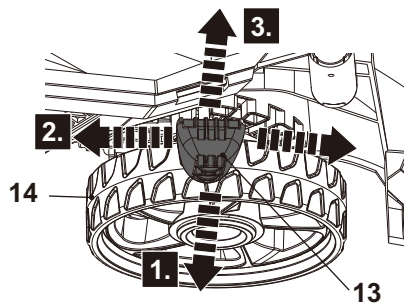

Fig. 13
1. Pull the lever (13) towards the rear wheel (14) (Fig. 13, step 1).
2. Move forward or backward to adjust the cutting height (Fig. 13, step 2).
3. Release the lever (13) and ensure it engaged in the slot properly (Fig. 13, step 3).